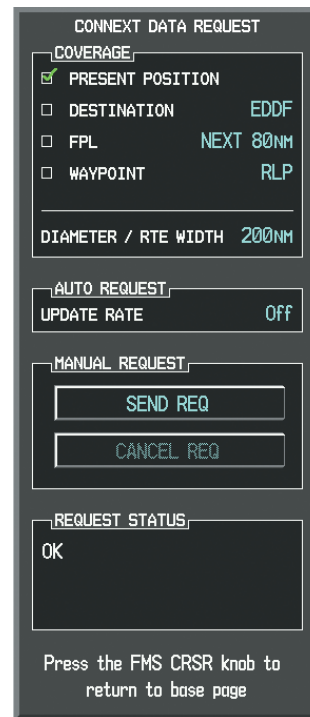

Figure 6-66 Connxt Data Request Window
- 4) Turn the large **FMS** Knob to highlight the desired coverage option(s) and press the **ENT** Key to select or deselect one of more of the following coverage selections (Figures 6-66, 6-67):